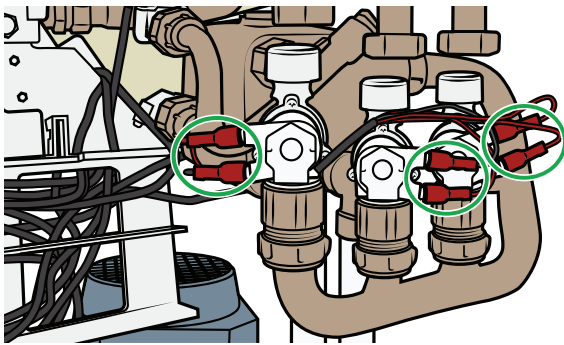

Figure 83
19. Connect the six electrical connections to the solenoid valves on the pipe connection. Make sure they are in the right positions. See Figure 83.